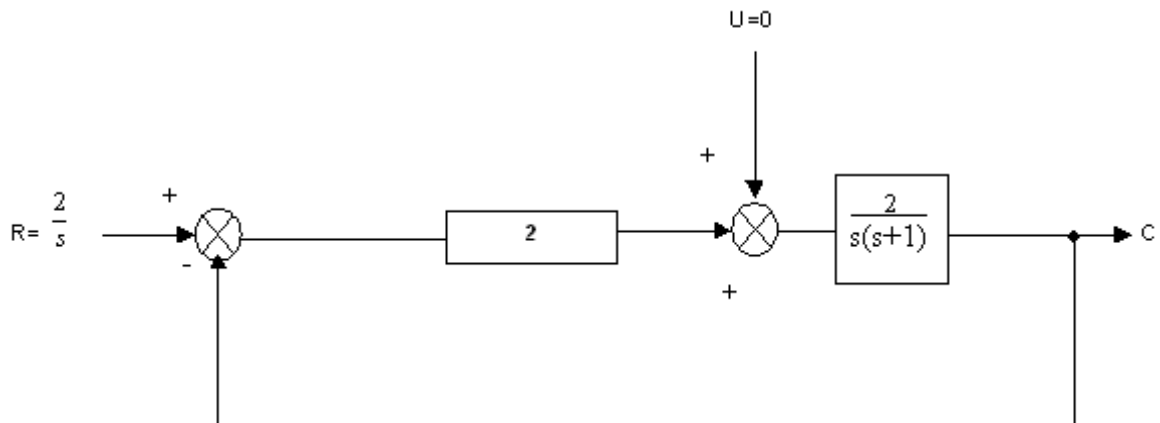

Figure 4
4. For the control system shown in figure 4 given below determine: